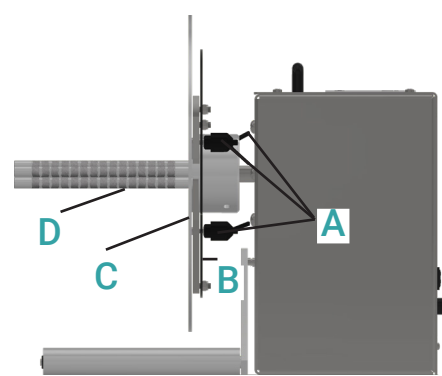

FIG. 9
- ACH (FIG.9): Slide the Hub of the ACH over the motor Shaft of the UNI-CAT. Position the Hub so there is a gap between the ACH Hub and the Rewinder Drive Unit case. Tighten the Allen Screw onto the flat part of the Motor Shaft until it is tight.